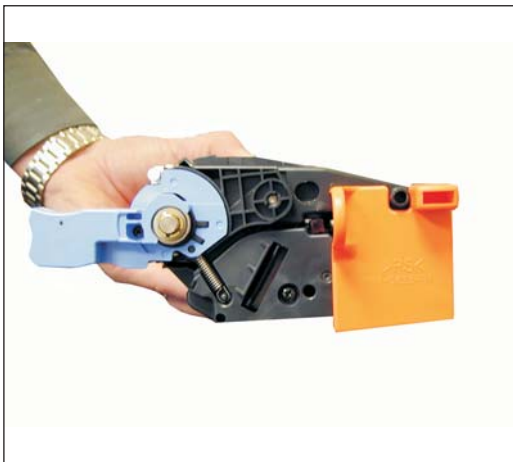

Figure 99
63) Install the shipping lock onto the cartridge. The flat tab fits into the slot in the cartridge, and the notch in the lock fits around the round post on the cartridge. See Figure 99